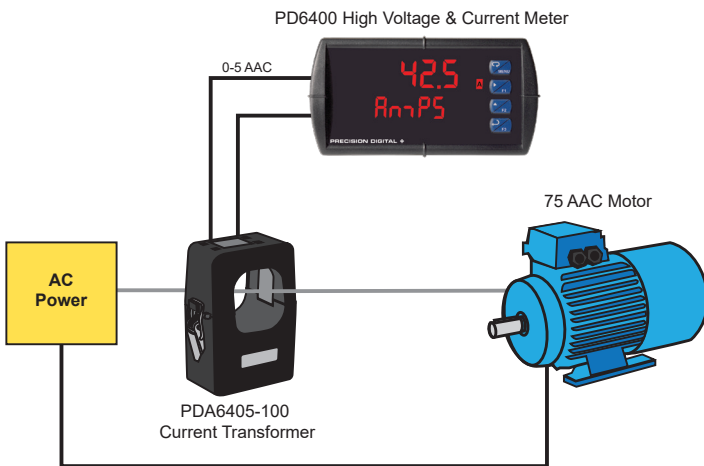

Figure 2: Measuring Current with PDA6405-100 Current Transformer and PD6400 digital panel meter.
3. Wire the output leads to desired device per Figure 2